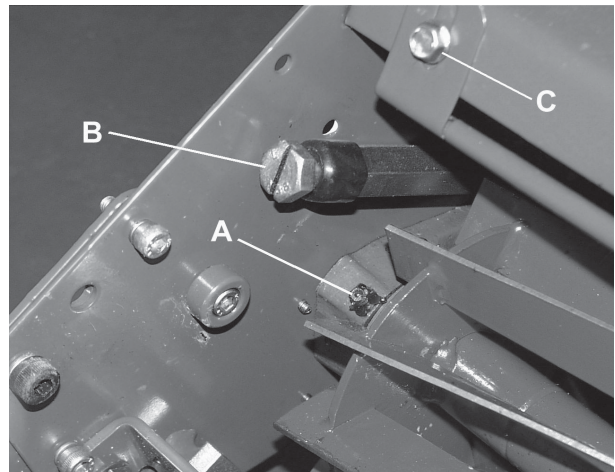

Fig. 8.8
8.8 CONCAVE ADJUSTMENT (Fig. 8.8)